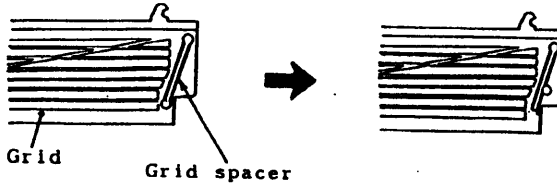

Figure 3
3. Modification of the grid spacer (figure 3).